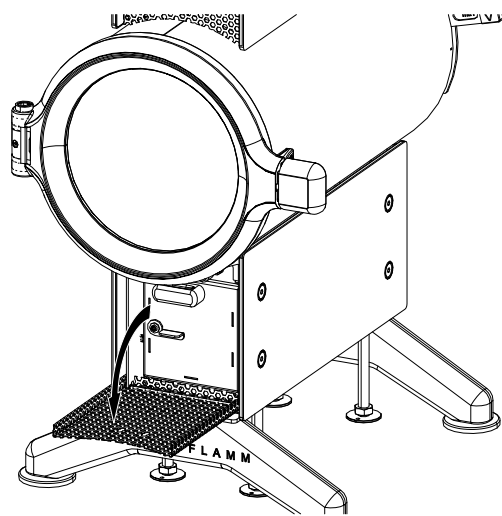

Fig. 22: Putting down aperture plate
- 1) Put down aperture plate (see Fig. 22).